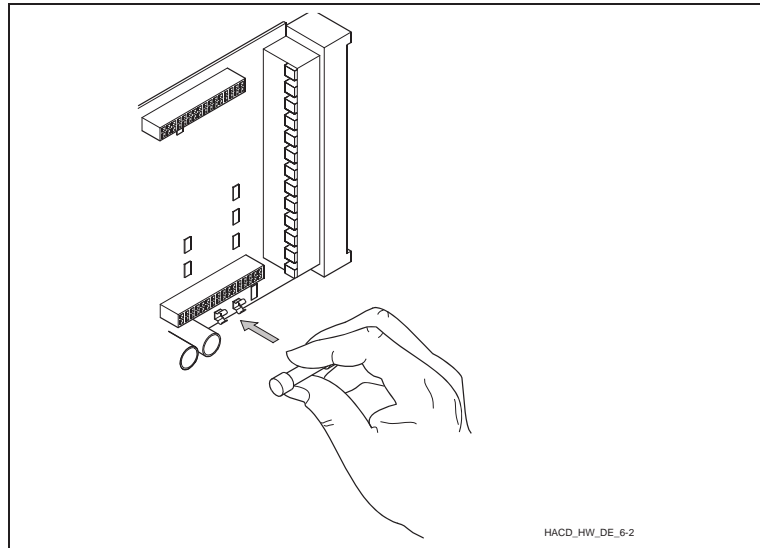

Fig. 19 Fuse on the VSPD controller card
- Remove the fuse from the fuse holder without excessive force (see Fig. 19 Fuse on the VSPD controller card).